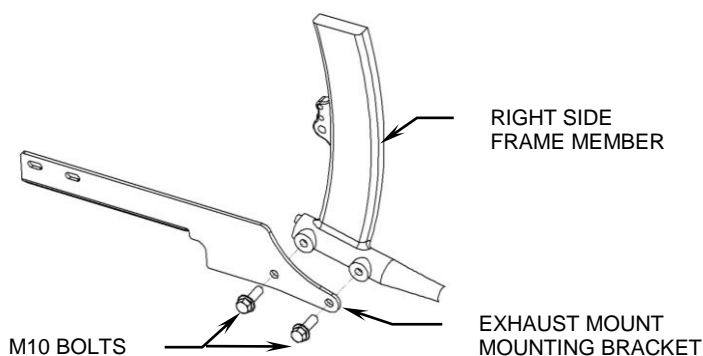

FIGURE 2
4. Install the Cobra supplied exhaust bracket using the supplied M10 X 30 mm Flange bolts, **DO NOT TIGHTEN AT THIS TIME**, see Figure 2.